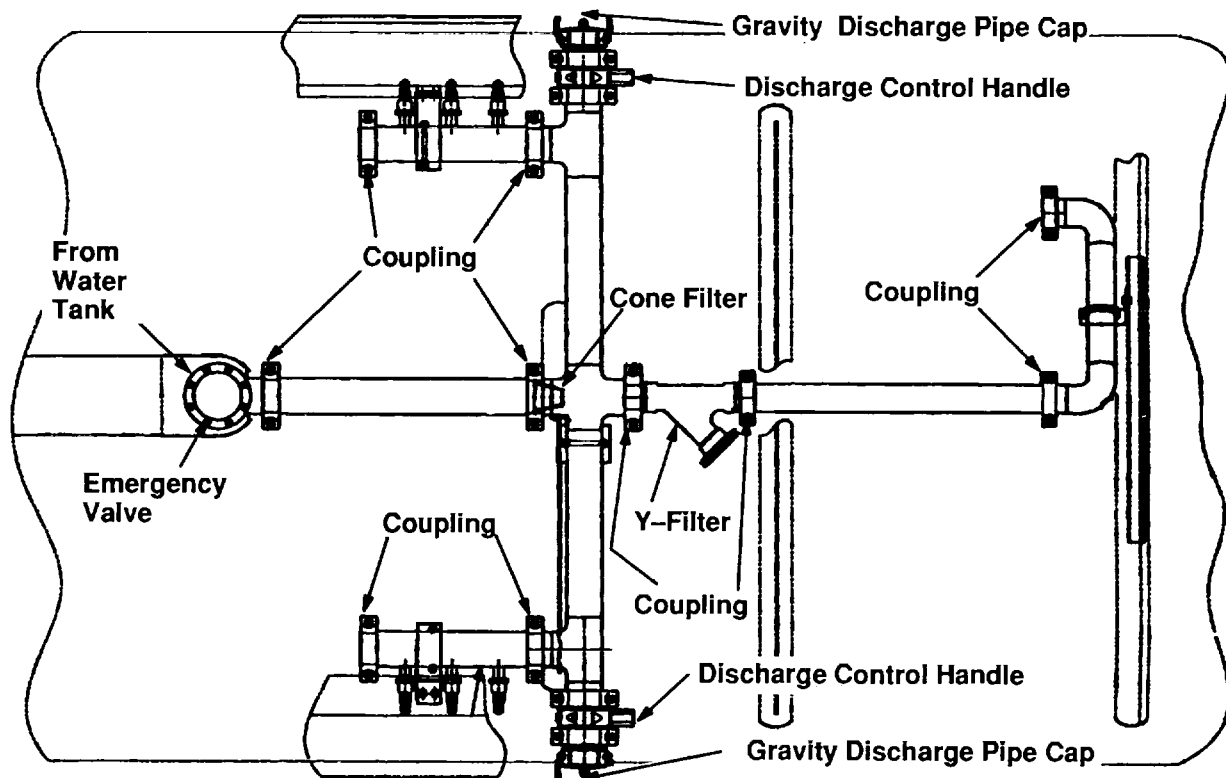

Figure 2-7. M1098 Water Piping
1. Open emergency valve that feeds water to all water outlets, fig. 2-7. Briefly open nearby faucet to check for presence of water, then close faucet.
6. Be sure discharge valve is closed, fig. 2-7.